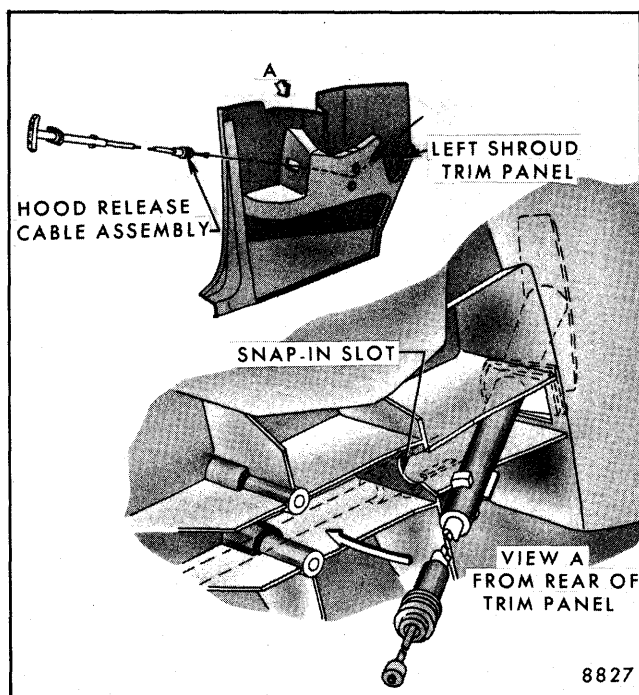

Fig. 4-8-Hood Latch Release Cable
The one-piece hood latch release cable includes pull handle, control cable and housing. The control cable is installed through the left shroud side trim panel (Fig. 4-8). A sealing grommet attached to dash panel completes the assembly.
4. Disengage control assembly housing from snap-in slot of trim panel (Fig. 4-8) and remove cable assembly from panel pulling toward pull handle end.